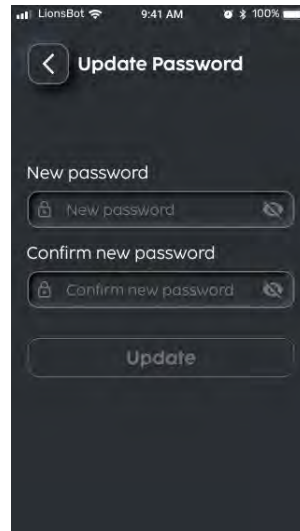
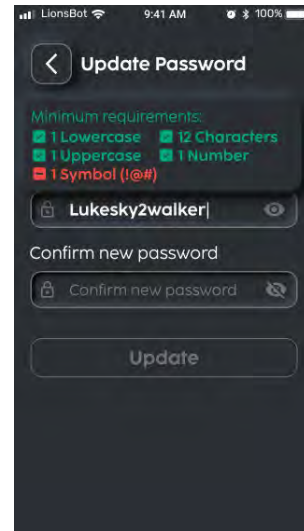

Fig. 5
Fig. 6
4. Enter a new password (Fig. 5). New password must meet the minimum requirements to proceed (Fig. 6).